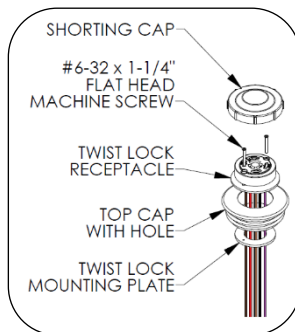

Fig. 5 – Install optional twist lock receptacle to top cap
7. Install the top cap on the pole (shipped with the pole). If the unit has a twist lock receptacle, assemble the receptacle and the top cap as shown in Fig. 5 and connect wiring before installing the top cap. Install provided shorting cap or photo-electric control.